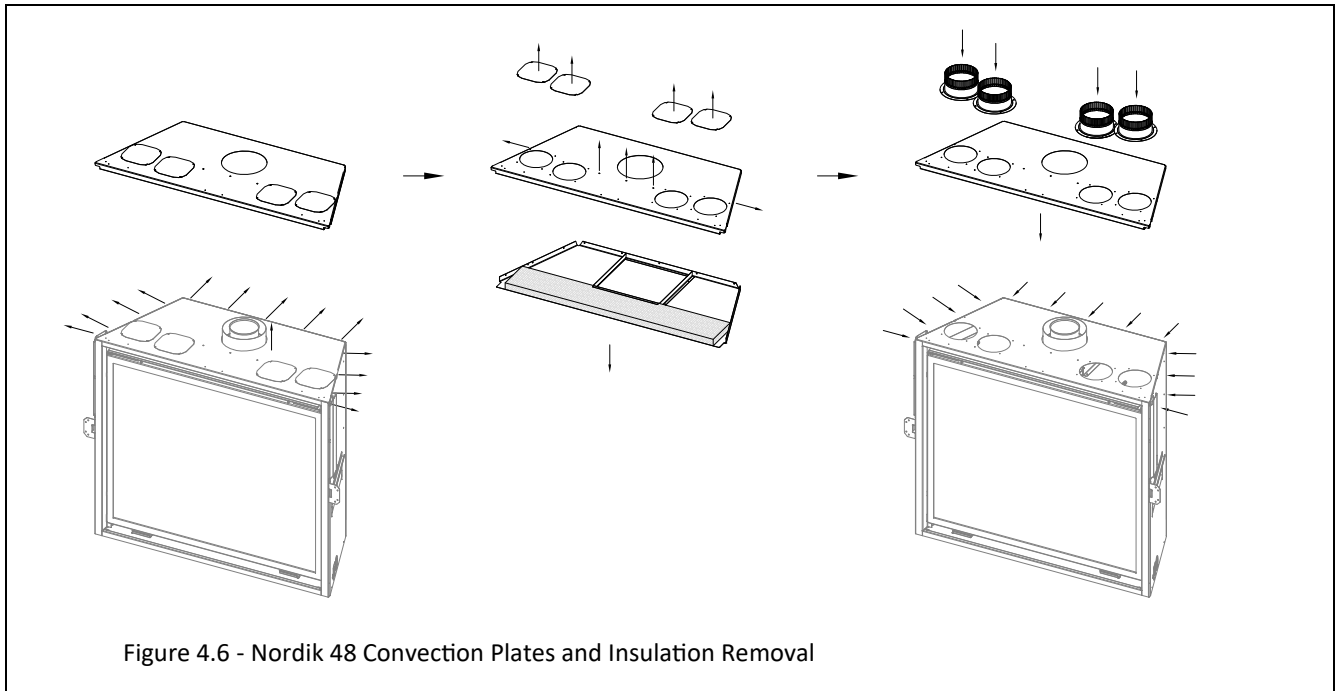

Figure 4.6 - Nordik 48 Convection Plates and Insulation Removal
1. Remove the (13) sheet metal screws that secure the top outer shell assembly. Pull this assembly straight up around the exhaust stack to remove it from the appliance. See the first image in Figure 4.6.
2. Remove the (4) cover plates where each cover plate is secured with (4) sheet metal screws. See the second image in Figure 4.6. Discard these cover plates.